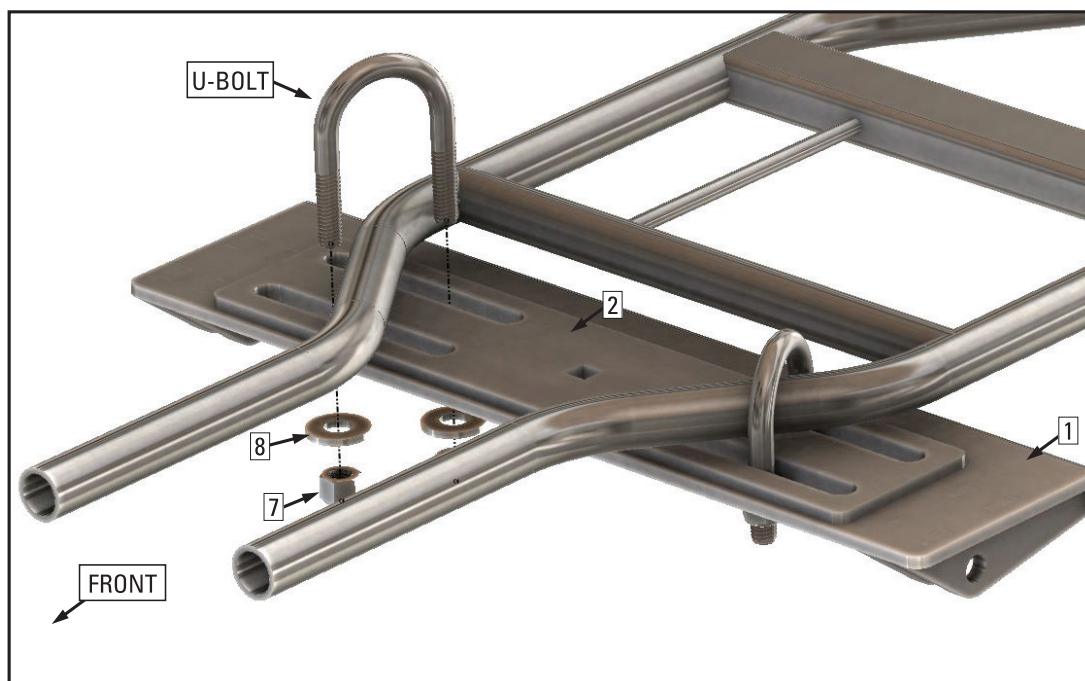

Figure 5: Round Tube Installation
- 3) Option: Place Upper Mount Plate (2) on top of Lower Mount Plate (1) for added strength (see fig. 5). The strength of the combined plates reduces flex while plowing.
- 4) Install the plate assembly to the U-Bolts using the washers (8) and 3/8" Nuts (7) provided.